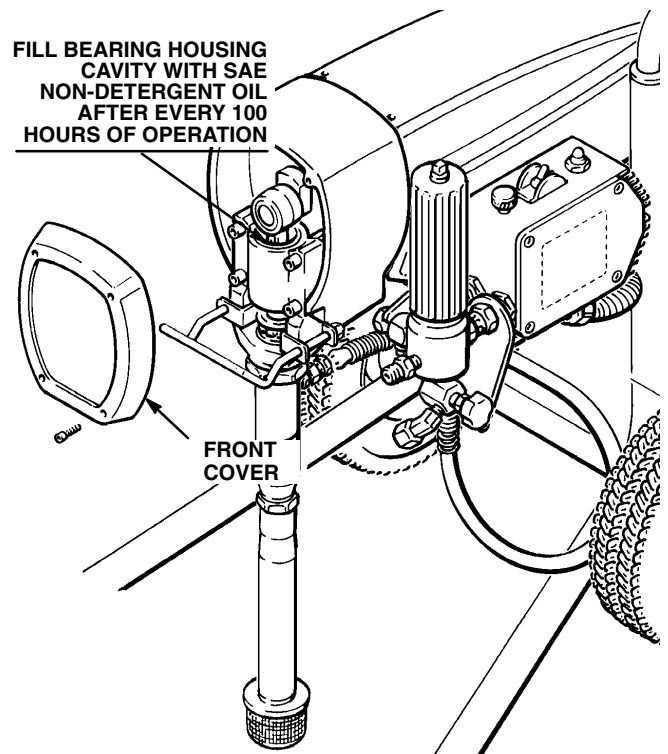

Fig 13-2
4. **Lubricate the bearing housing** after every 100 hours of operation. Remove the front cover. Fill the bearing housing cavity with SAE 10 non-detergent oil. Refer to Fig 13-2.